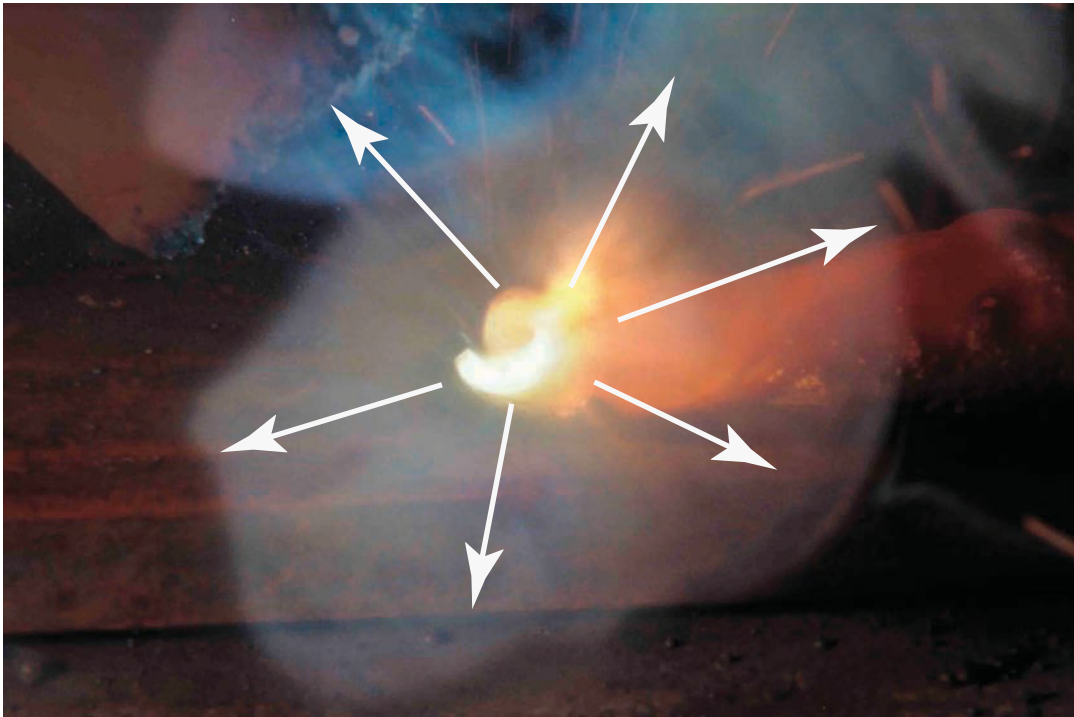

Figure 3.13 Rapidly expanding gas cloud
- *Shielding gas:* As elements in the flux are heated by the arc, some of them vaporize and form voluminous gaseous clouds hundreds of times larger than their original volume. This rapidly expanding cloud forces the air around the weld zone away from the molten weld metal, Figure 3.13. Without the protection this process affords the molten metal, it would rapidly oxidize. Such oxidization would severely affect the weld's mechanical properties, rendering it unfit for service.